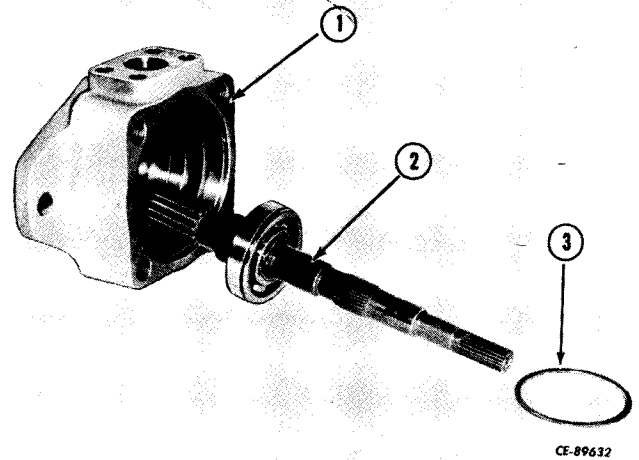

Figure 11-18
Install the shaft with bearing (2, Fig. 11-18) in the body (1) and secure with the ring (3).
Place the rotor on the pressure plate (5, Fig. 11-18) with the arrow on the rotor pointed in the correct direction of rotation (10). Place the inserts in the vanes and install the assembly in the rotor slots. Be sure the sharp edges are toward the direction of rotation.